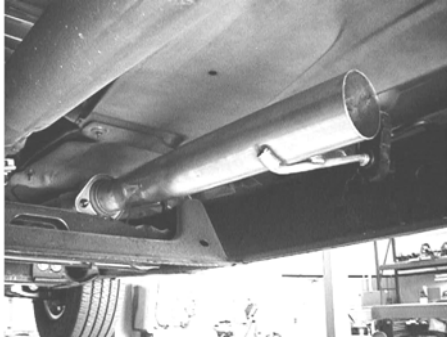

Figure 3
1. Place the front pipe into position as shown in figure 3 using the original hardware to secure the flange. Install the hanger into the rubber bracket.